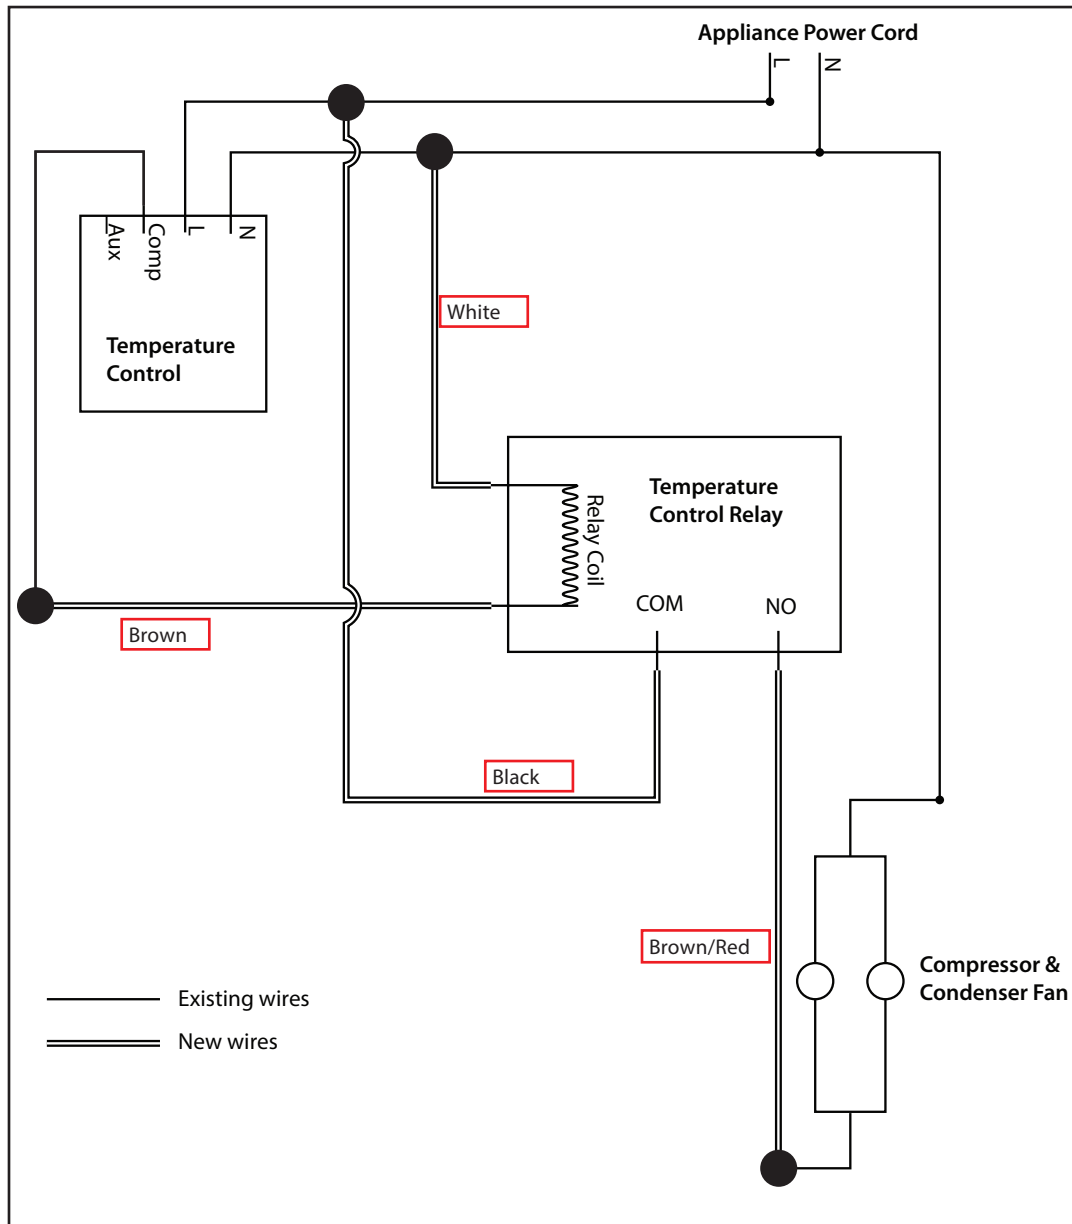

Fig. 3. Relay and temperature control wiring diagram.
2. With the provided lever connectors, connect the provided relay to the appliance as follows (see fig. 3).